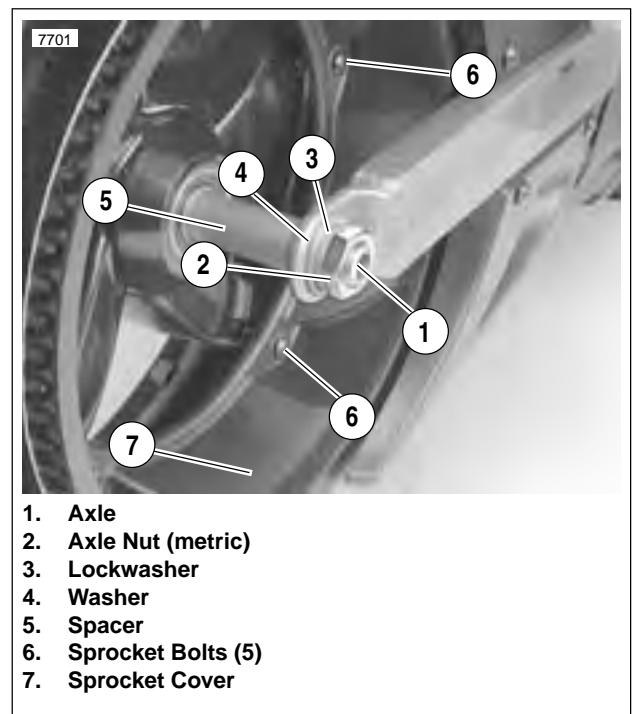

Figure 2-11. Rear Axle, Right Side
- See Figure 2-11. Hold right side spacer in place.